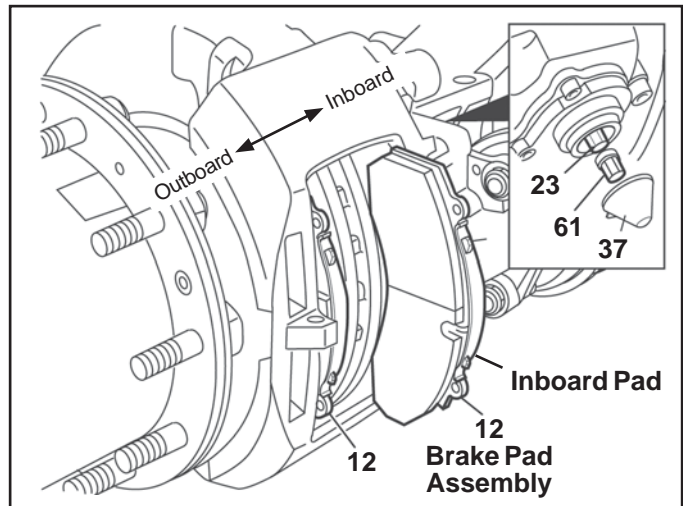

FIGURE 32 - BRAKE PAD REMOVAL
To remove the outboard brake pad (12), slide the caliper (1) fully to the outboard position first. Similarly, to remove the inboard pad, first move the caliper fully to the inboard position, and then remove the pad. See Figure 32.